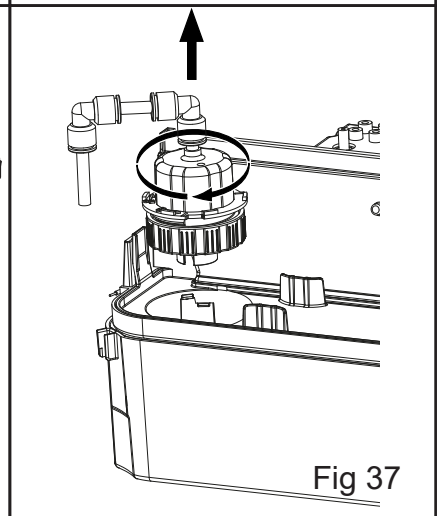

Fig 37
2. Verify that the valve has been activated by checking the orientation of the valve arm. If the pad has expanded and the valve arm is in the upper position (Fig 37), the valve has been activated.